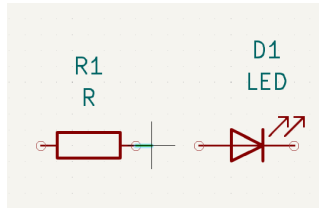
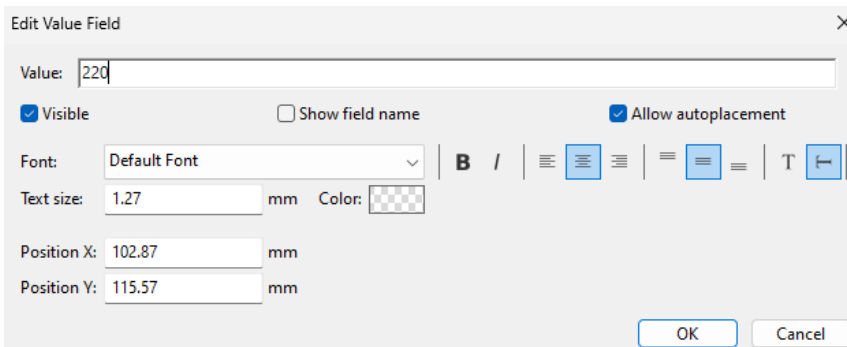

Figure 7. Connect components with wire.
Figure 8. Edit resistor value.
In Figure 7, may notice that the value of resistor is *R* but not the exact value we want (220). To change this, double click on the *R*, then the value of the resistor can be modified in the following window shown in Figure 8: